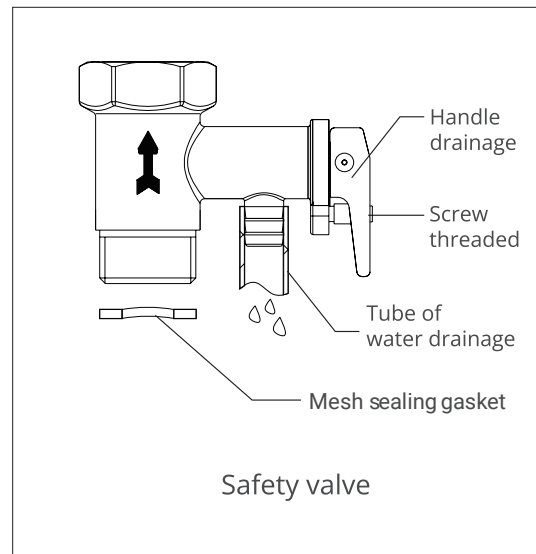

Fig.7
- Unscrew the thread screw on the multifunction safety valve, and lift the drain handle upwards (See Fig. 7) to drain the water from the inner tank.